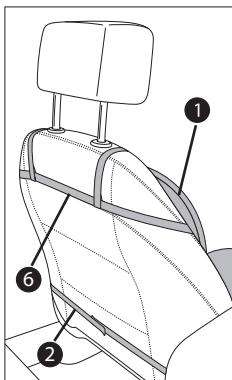

Fig. 1
- ◆ Place the seat cushion ① on the car seat.
- ◆ Pull the seat cushion ① securing straps ⑥ over the head restraint of the car seat.
- ◆ Secure the seat cushion ① carefully using the securing straps ② (see Fig. 1).